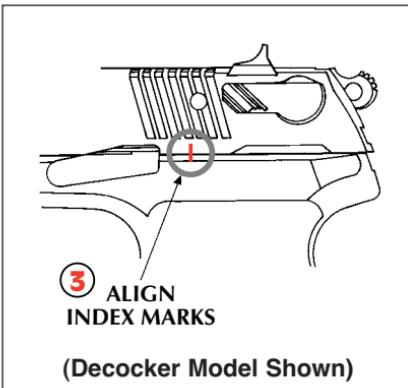

FIGURE 2
4. Remove fingers from ejection port. Grasp slide tightly. Now press down on slide stop and allow slide to move **slowly** forward until the vertical disassembly line on the frame is aligned with the vertical disassembly line on the slide (See Figure 2, p. 17). Press in on right-hand end of slide stop and pull slide stop out of frame to the left until it is withdrawn completely out of the frame. (See Figure 3, p. 17).